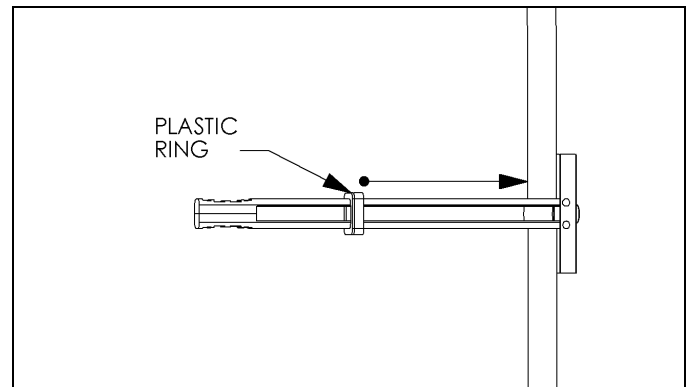

Figure 10.
5. Slide plastic ring of anchor to the surface of the wall (see Figure 10).